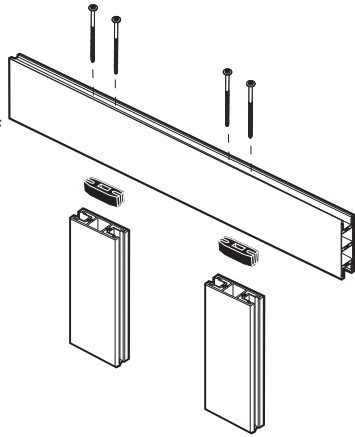

Figure 3
Take the Top Rail (C), making sure the side with the large holes is facing to the outside. Place 2 of the 4" screws through the outside channel of the Top rail until fully inserted. Place reinforcement clip onto screw shafts. Take one of the vertical transom stiles and line up the extrusion holes with the screws. Tighten until flush and secure. Do not over tighten. Repeat with the other transom stile. See Figure 3.